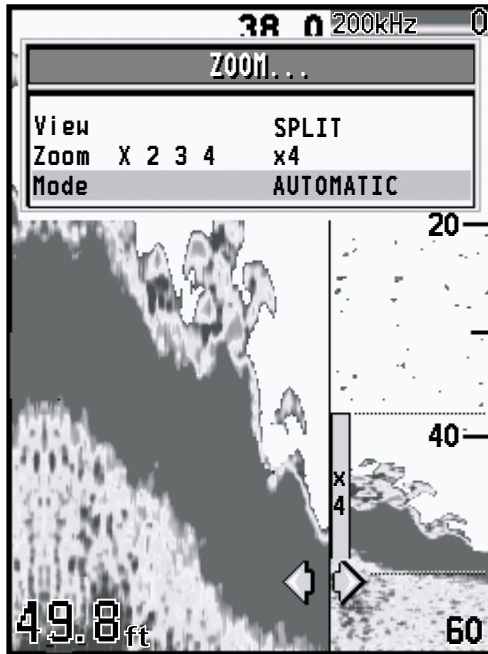

Figure 4-3: Zoom with Split Screen
- SPLIT means the display is split vertically, with the zoom image in the left hand window and the scrolling bottom display in the right hand window. See Figure 4-3 .